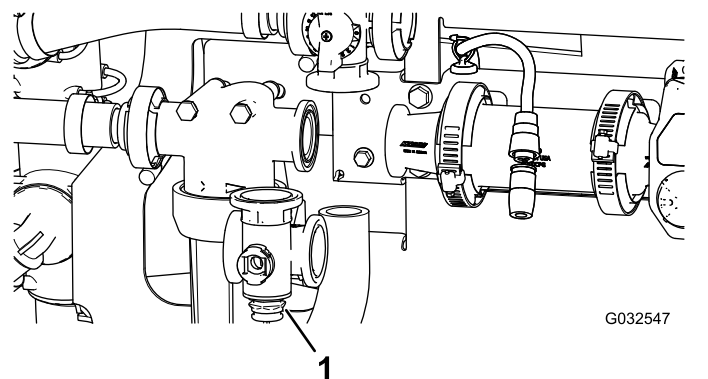

Figure 101
2. Remove the agitation-valve manifold from the machine (Figure 101).